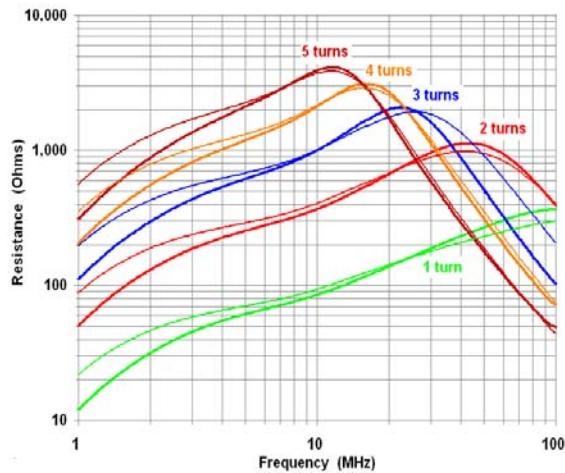
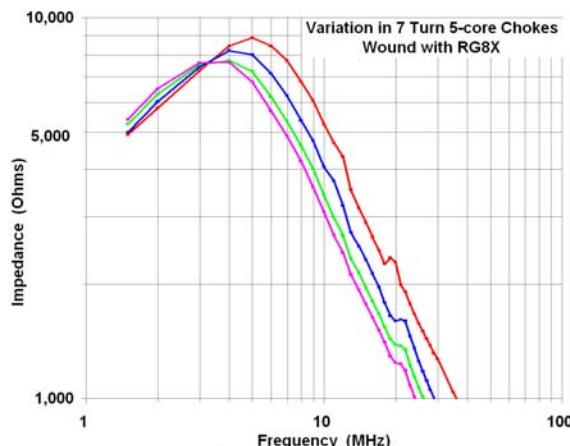
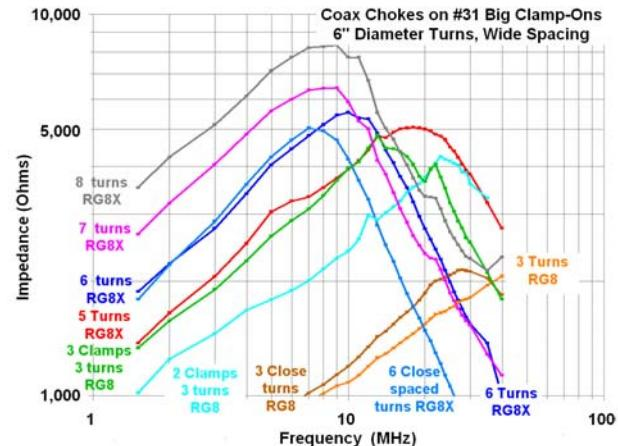

Fig 39 – The "Biggest #31 Clamp-On"
Fig 45 – Variation of chokes with winding style, coax outer jacket material
Fig 46 – Measured Impedance of Chokes wound on the "Big #31 Clamp-on"
**Weight:** A 2.4" o.d. #31 toroid weighs about 4 oz, and we need less than 8 ft of coax for five turns, so a five core choke on RG8 will add just about 4 lb to the weight of the antenna. The "Big Clamp-On" in Fig 5, data in Fig 39, can also be used for coaxial chokes; it weighs 11 oz, and is equivalent to three or four toroids. Can we use smaller coax? Probably, especially if our antennas are always reasonably well behaved. The failures mostly come when they are not. W8JI reports that he often feeds high dipoles for 160 and 80 with RG6 to reduce weight, thus reducing sag and the strain on support lines, and that a good RG6 will handle full legal power. My "workhorse" 160/80/40 dipole, fed with 150 ft of RG59B that I bought from "The Wireman" several years ago, worked fine with the full output of my Titan amp, even with a mismatch on the line that approached 2.5:1 during SSB contests. I've since replaced it with RG11 to reduce loss.
**The Biggest Clamp-On** Fig 39 is data for coils wound through the "biggest Fair-Rite #31 clamp-on" in Fig 5. Measured data for 1-5 turns through this part and a somewhat smaller one are shown in Fig 39. The heavier lines are the biggest clamp-on (1" i.d.); the lighter lines are for a 0.75" i.d. part. While the smaller part provides a bit higher impedance at low frequencies, it is far less useful because it doesn't allow as many turns of most cables on which we would like to use it. This big clamp-on is quite useful in many applications where it isn't practical to remove a large connector. Although we only measured small wire chokes up to five turns with this part, it can certainly be used with more than 5 turns of some cables. More turns moves the resonance even further down in frequency; it also increases the equivalent series resistance below resonance, -and for up to about one-half octave above resonance. See Fig 45 for coaxial chokes using the "biggest clamp-on."
See Fig 45 for coaxial chokes using the "biggest clamp-on."
**Your Mileage Will Vary** Fig 45 shows the variation in impedance that can occur based on the details of how the choke is wound, and on the jacket material. The magenta curve is for a choke
**The Biggest Clamp-On** Fig 46 is measured data for various coaxial chokes wound through the "biggest #31 clamp-on" of Fig 5 and Fig 39. This is a very useful and versatile part, because it can easily be applied to cables without removing a large connector, or without disconnecting them from an existing system.